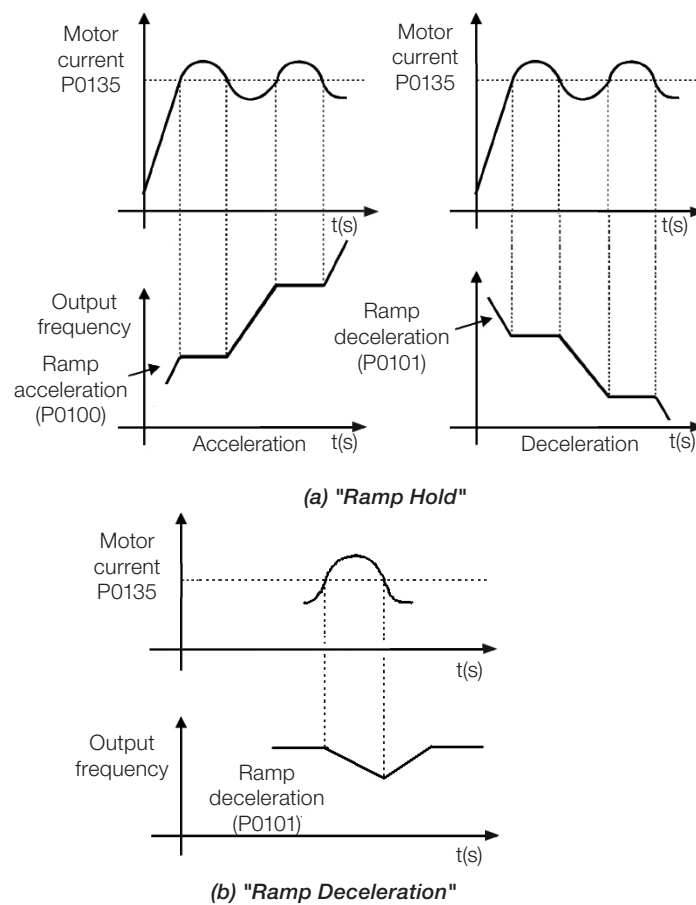

Figure 11.6: (a) and (b) Actuation modes of Current Limitation via P0135
- Actuation: if the motor current exceeds the value set in P0135 during acceleration or deceleration, the speed will not be incremented (acceleration) or decremented (deceleration). When the motor current reaches a value below P0135, the motor accelerates or decelerates again. Refer to Figure 11.6 on page 11-7.
- Actuation: if the motor current exceeds the value set in P0135, a null value is forced for the speed ramp input forcing the motor deceleration. When the motor current reaches a value below P0135, the motor accelerates again. Look at Figure 11.6 on page 11-7.
Current level to activate the current limitation for the Ramp Hold and Decelerate Ramp modes, as per Figure 11.6 on page 11-7, respectively.